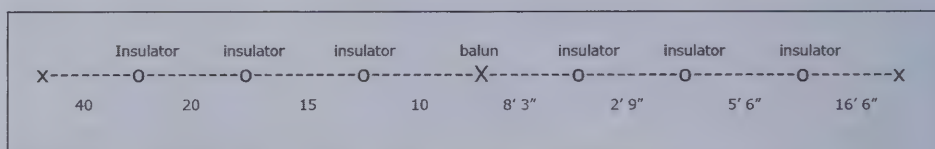

Figure 1—Diagram of the multiband antenna with clip-lead connections.
Figure 1—(A) Conduit Body 3/4"; (B) Brass Pipe Fitting, Reducing Hex Head Bushing, 1/4" NPT Male \times 1/8" NPT Female; (C) Reducer Bushing, White PVC, 3/4" slip \times 1/2" thread. Two of these are required; (D) PVC Pipe Fitting, Plug, Schedule 40, 3/4" Spigot.
Okay, are you confused yet? Figure 1 is an illustrated list of the materials you need from the home improvement store.
I wasn't looking forward to winding new traps. I remembered as a kid I built a dipole by just inserting insulators along a wire (Figure 1). I had a pulley at one end so I could easily lower the antenna, and would place short clips across the insulators to change bands. It worked well, but it was somewhat of a pain to change bands.